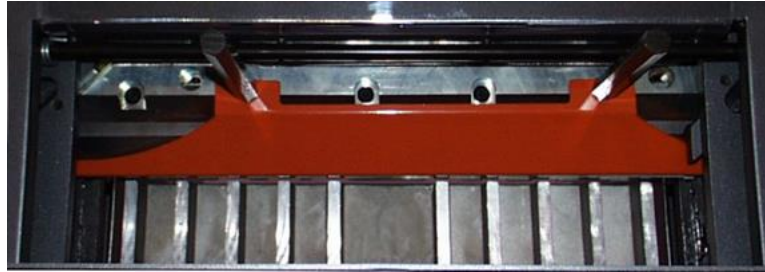

Figure 16
3. Remove the two knife bolts from the slotted knife bar holes **ONLY** and replace with the knife lifter assembly (Figure 16, next page). Tighten the lifters to hold the knife in place, and then remove the remaining three knife bolts.